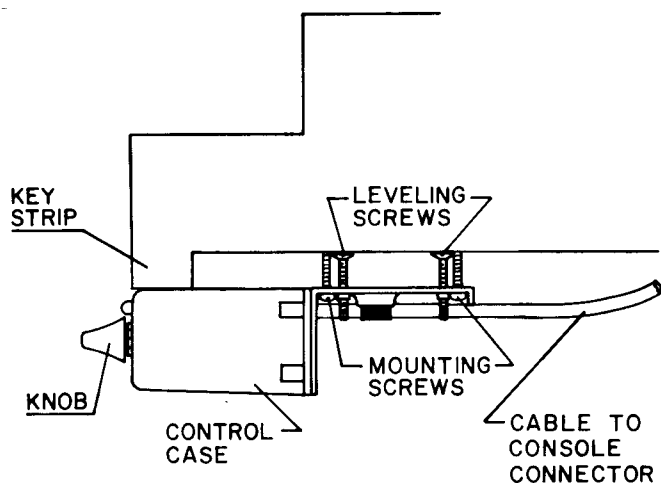
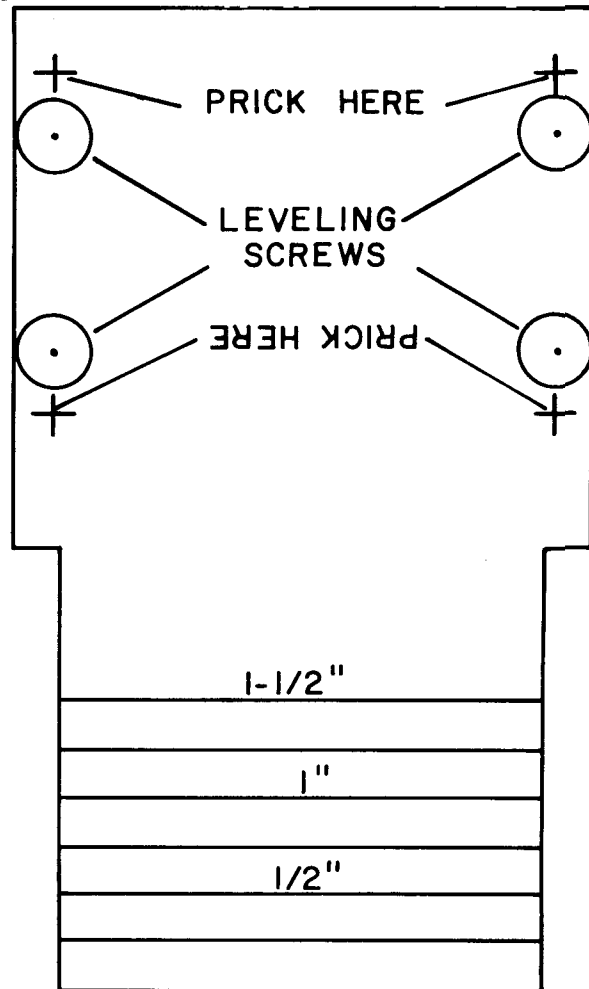

Figure 1. Control Mounted on Organ
Figure 2. Control Location and Mounting Template
CONTROL UNIT MOUNTING (figures 1, 2)
3. Indicate the control location on the under side of the shelf. Cut out the paper template (figure 2) provided in this instruction sheet.
6. Put the four leveling screws (flat-headed machine screws) into the holes indicated in figure 2, WITH THE HEADS UPWARD. Hold the control mounting bracket in position at the location marked for mounting. Adjust each of the four leveling screws so that the control is positioned just below the keybed, and is level. See figure 1.